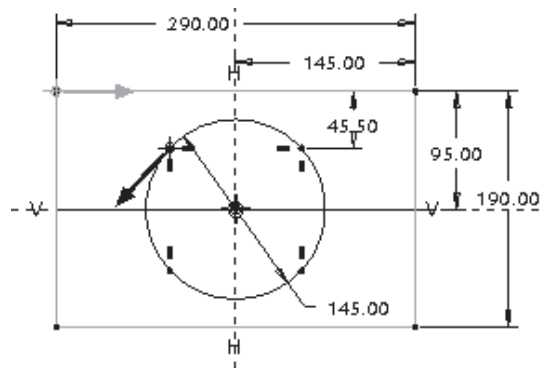

Figure 8-113 Two completed sections
- c. Create the sketch for the second section of the blend feature, refer to Figures 8-113.
1. Draw the sketch of the circular section, refer to Figure 8-113. Modify the diameter of the circle to 145.
2. Select the circle at four points, as shown in Figure 8-113.
4. Modify the vertical dimension of the upper left division point, as shown in Figure 8-113. After the circular section is completed, the two sections with dimensions will look similar to the sections shown in Figure 8-113.